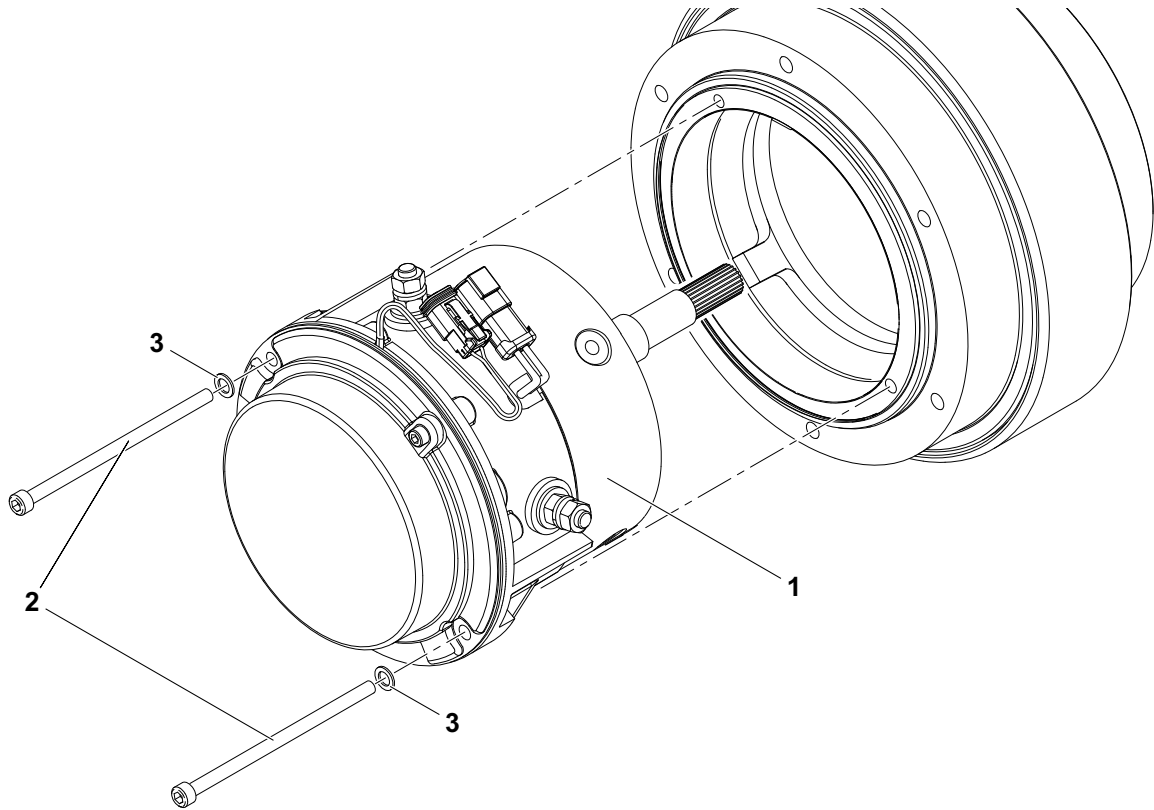

Figure 3-23. Electric Drive Motor Removal
1. Remove the two Cover Plate Mounting Screws (14) holding the Cover Plate (13) in place and remove the cover plate from the motor.
2. Remove the Brake Cover Mounting Screws (15) holding the Brake (11) in place and set aside. These screws are used to manually release the brakes.
3. Remove the two Terminal Cover Mounting Screws (16). Slide the strain relief of the Wire Harness (1) out of the cover and remove the cover from the motor.
4. Discard the Gasket (12) that was located under the brake and terminal covers.
6. Install the two Brake Cover Mounting Screws (15) into the threaded holes in the brake assembly and tighten to manually release the brake (see Figure 3-23.).
8. Remove the screws holding the Commutator End Head (9) in place and remove the commutator end head from the frame and field assembly. The Arma-
- ture (2) will be attached to the commutator end head.
- 9. Pull back the Brush Springs (4) in the commutator end head, pull the brush back and rest the springs on the side of the brush. The brushes should move freely within the holders.
- 11. Remove the Snap Ring (7) and Bearing (8) from the commutator end head. Discard the bearing.